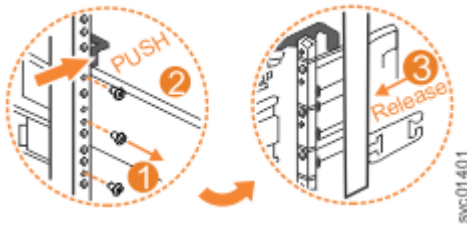

Figure 133. Remove the rail assembly from the rear frame bracket
3. Remove the two screws that attach the inner rail section to the rear bracket, as shown in Figure 133 on page 171.
4. Pull the rail forward away from the rear bracket, as shown in Figure 133 on page 171.